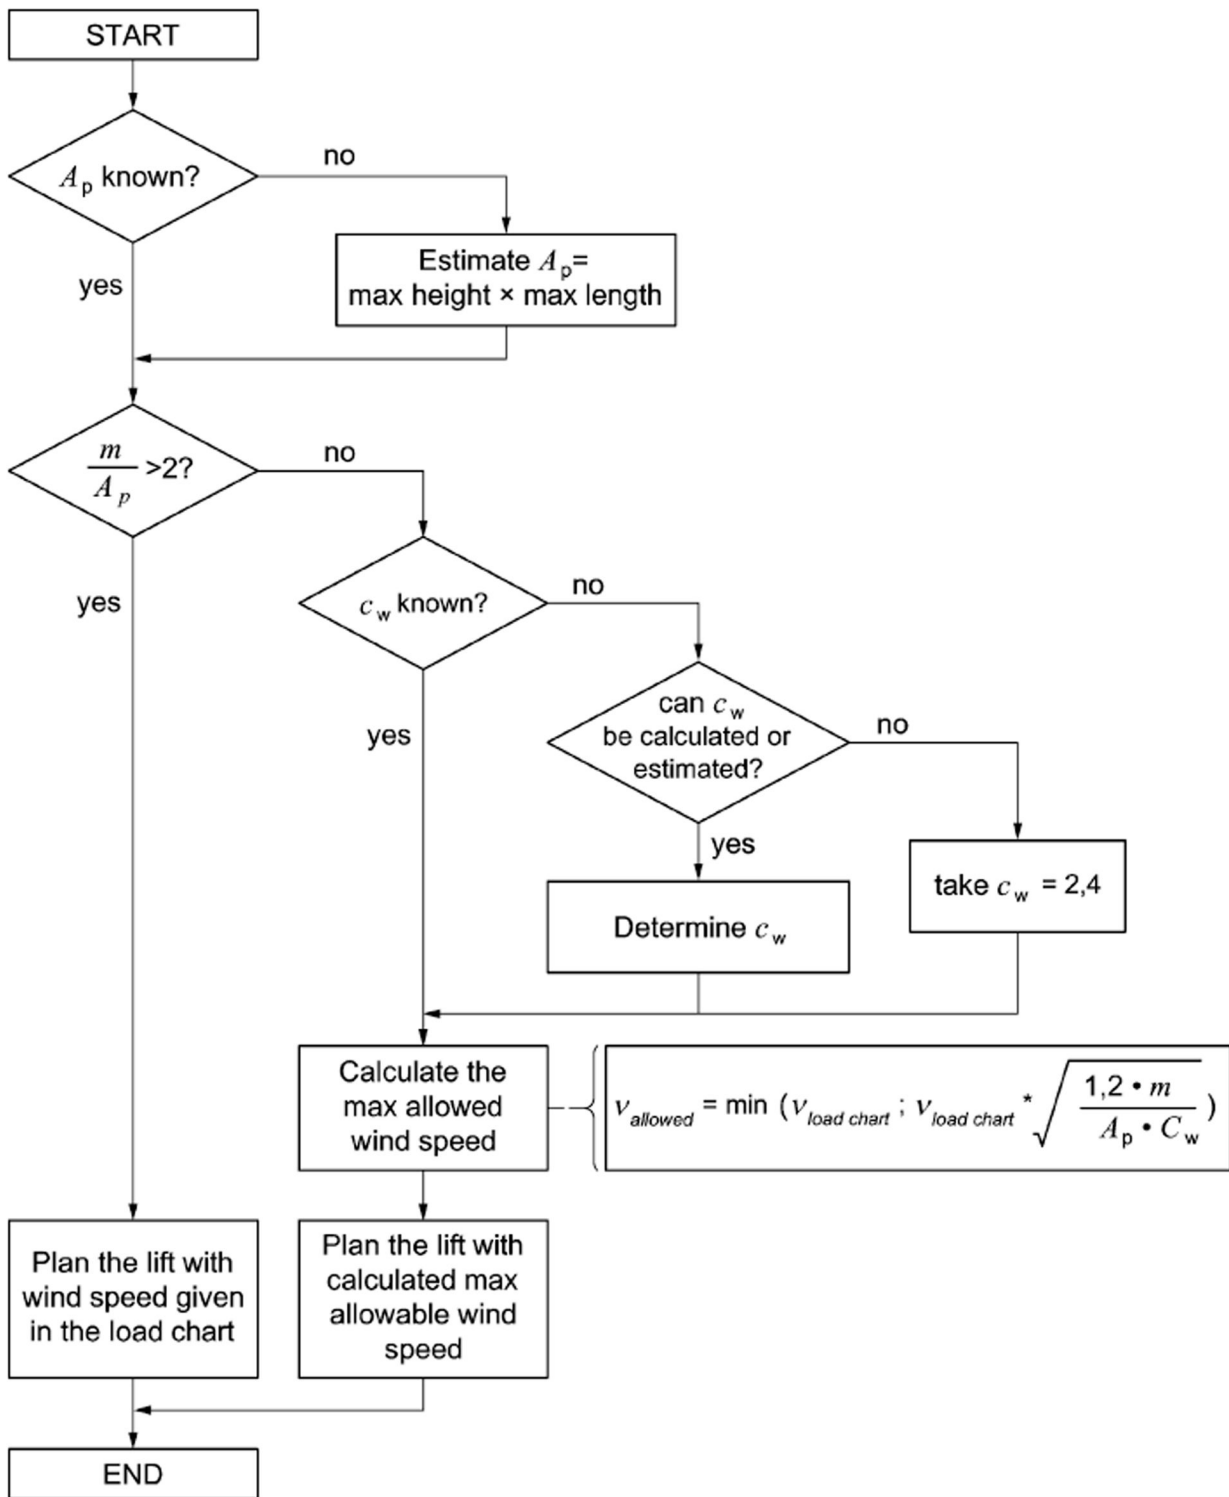

Fig. 732: Simplified procedure for determining the maximum permissible wind speed in accordance with EN 13000 Annex N
- ▶ Note that the area exposed to wind of the load considered in the load calculation is 1.2 m²/t (cw value as factor already considered). If the load's area that is exposed to wind is larger: Calculate maximum permissible wind speed (see: fig. 732, page 617) or contact Liebherr customer service. Loads may not be picked up until this evaluation has been performed.